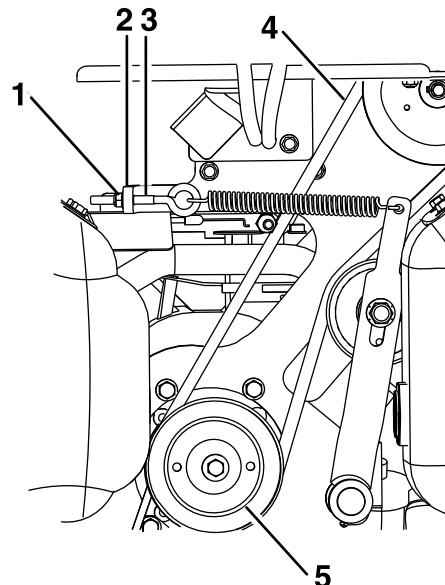

Figure 3
4. Release the pump belt (item 4, Figure 3) tension by removing nut (item 1) from the tension rod (item 3).
5. Remove the pump belt (item 4) from the engine pulley (item 5) in Figure 3.
14. Reinstall the pump belt (item 4, Figure 3) to the outer engine pulley (item 5). Make sure it is installed correctly on the pump pulley and idler pulley.
15. Reinstall the tension rod (item 3, Figure 3) to the pump plate hole and install the tension rod nut.
16. Tighten the tension rod nut (item 1, Figure 3) until there is 1.25 inches (3.17 cm) of tension rod extending from the pump plate tab (Figure 6).